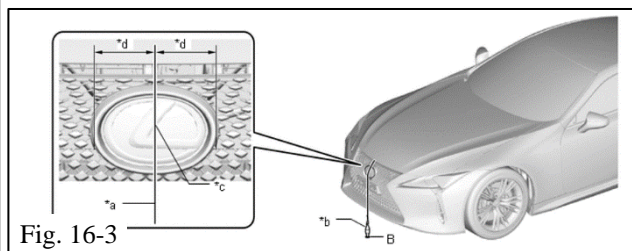

Fig. 16-3
- (2) Hang a weight with a pointed tip from the center of the front emblem, and mark the front center point of the vehicle (point B) on the ground (Fig. 16-3).